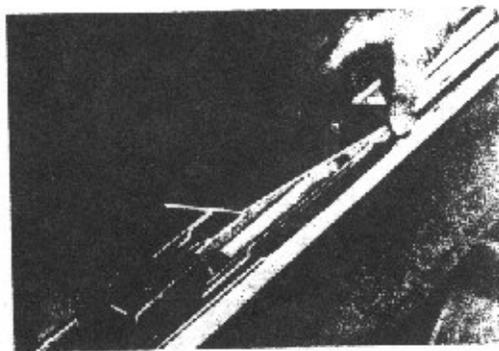

figure 11
- h. Place a 2-3/4" x 8" 11 gauge steel plate (fig. 11) (Vesely part #19-00-694). Use a 3/8"-16 nut to retain plate. This plate will cover the elongated slot in the extrusion and prevent the cable from becoming jammed or kinked. Check other end of unit for plate and install if missing.